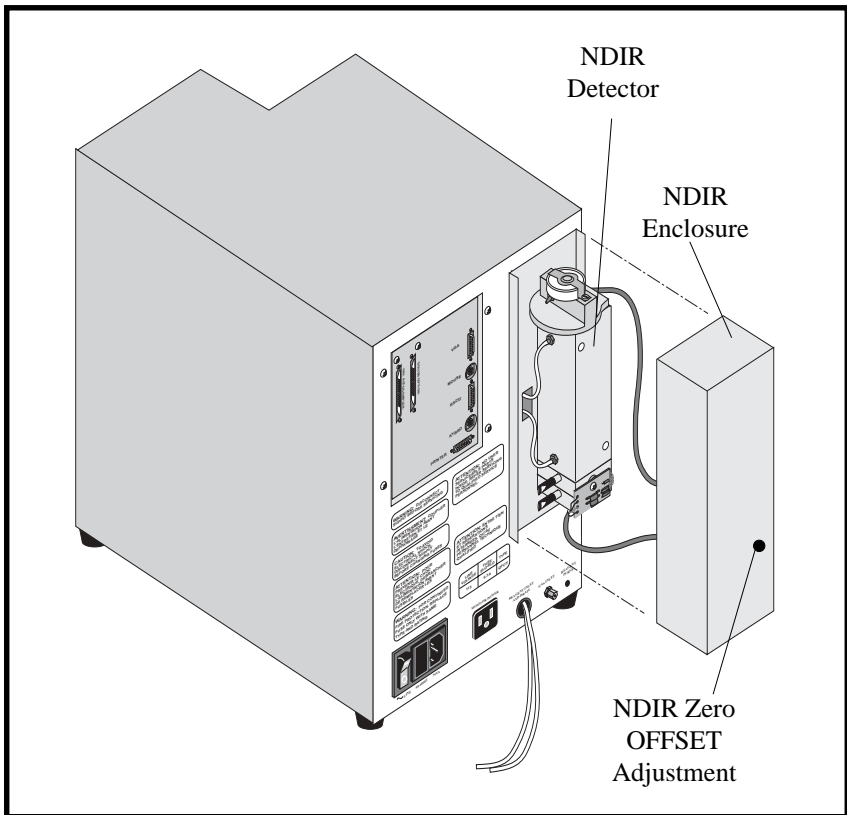

Figure 5.1. Nondispersive Infrared (NDIR) Detector
3. Slowly turn the NDIR Zero OFFSET adjustment (on the NDIR detector enclosure) (see Figure 5.1) clockwise to increase baseline (positive shift) or clockwise to decrease baseline (negative shift) and set output between 500 and 1,000.